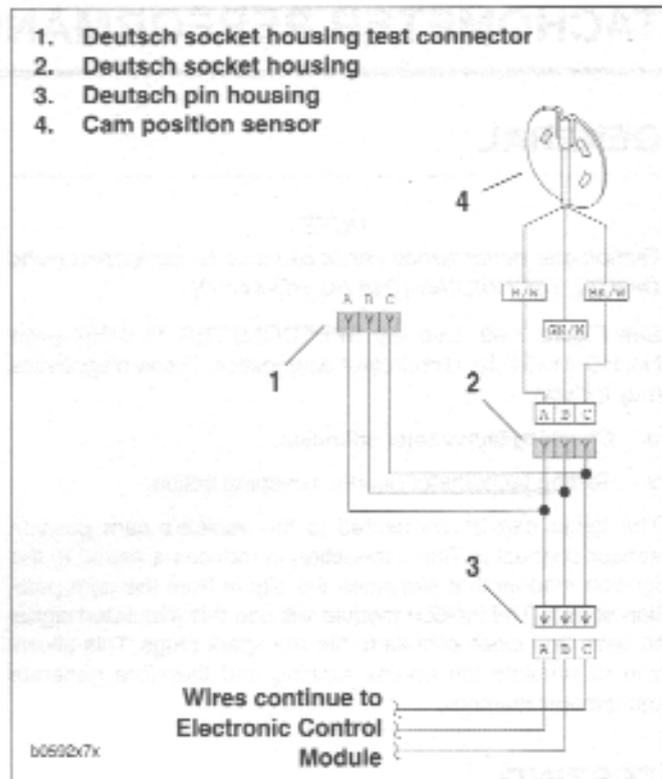

Figure 7-63. Testing Tachometer
2. See Figure 7-63. Connect the speedometer tester to the cam position sensor Deutsch socket housing using test harness. See *Speedometer Sensor Test* under 7.18 *SPEEDOMETER PERFORMANCE CHECK* for more information on test harness.
1. See Figure 7-63. Connect the speedometer tester to the cam position sensor Deutsch socket housing using test harness. See Speedometer Sensor Test under 7.18 SPEEDOMETER PERFORMANCE CHECK for more information on test harness.